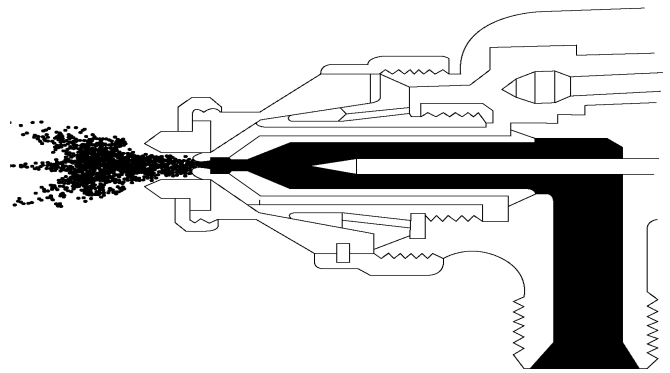

Figure 4/II.3.1—Binks spray gun.
- 1) Internal (see Figure 4/II.3.1.)—Air and gel coat meet inside the gun head and come out a single orifice. This system is not recommended for gel coats except for one or two special type products as it has a tendency to cause porosity and produce a rougher film. It also requires a solvent flush system.